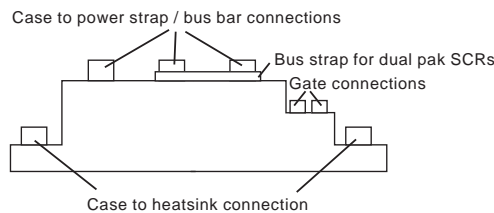

Figure 50: SCR Connections
1. For D47 through C32 controllers, disconnect jumpers J13, J14, and J15 from the current measurement board. See Figure 50 on page 70.